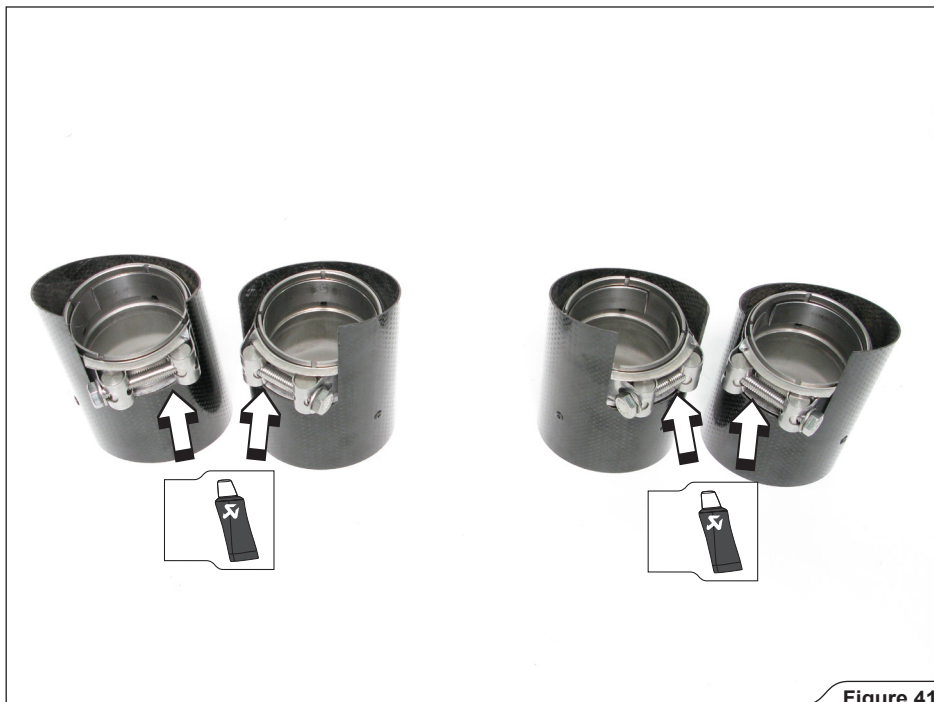

Figure 41
21. **For Slip-On:** assemble the clamps and spherical rings onto the Tail Pipes, as shown (Figure 41).